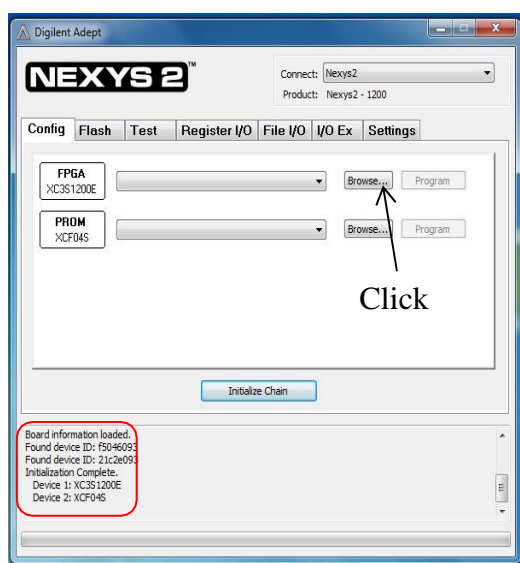

Figure 17: Adept Opening screen after connecting FPGA board
- The following window (figure 17) will appear. If the board is working properly, it should show the following information which is highlighted by the box. If it is not showing, there might be problems with the board and/or the cable.